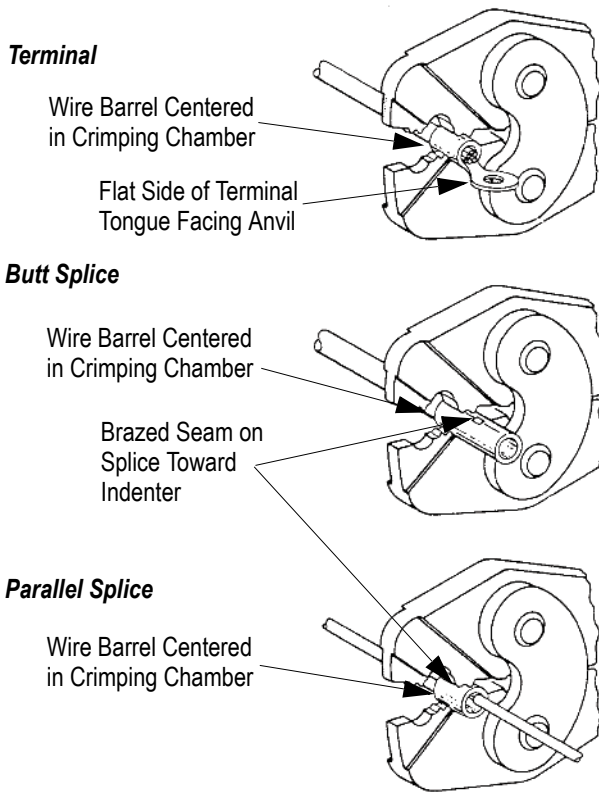

Figure 3
2. Center the terminal or splice wire barrel in the appropriate crimp chamber. For terminals, make sure that the flat side of the tongue faces the anvil. For splices, make sure that the brazed seam, (when visible), is towards the indenter. See Figure 3.